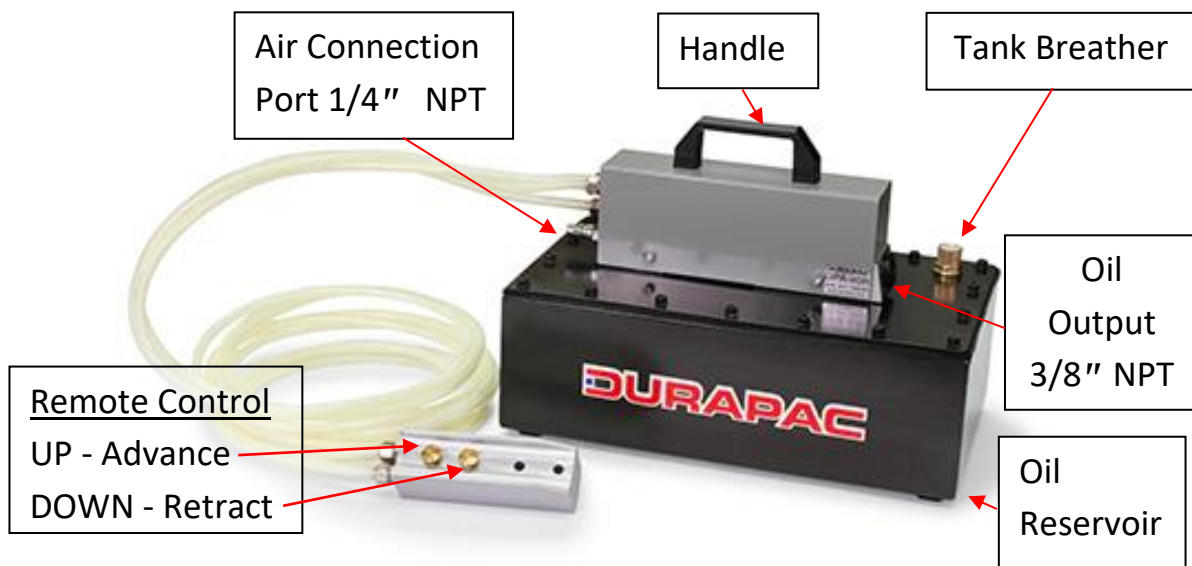

Figure 1 - DPA-40R Components
- 5.1 Air connection - Remove plug from air input port (refer Figure 1) and connect to adequate air supply.
- 5.2 Hydraulic connection - Remove manifold plug from oil output port and connect to suitable application using 3/8" NPT connection. Open tank breather 1-2 turns (refer Figure 1).
- 5.3 To operate/advance the power unit, press and hold on the UP button of the remote control until the desired pressure, load or position is reached (refer Figure 1).
- 5.4 To retract application, simply press the DOWN button on the remote control (refer Figure 1).